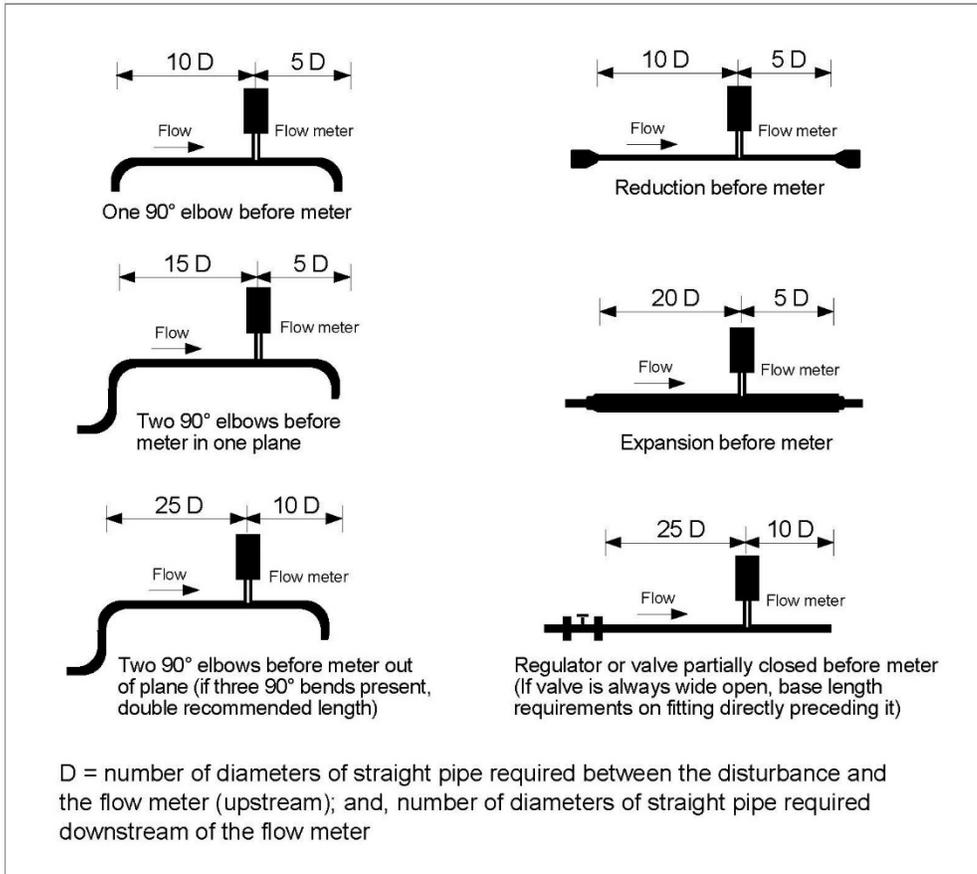

Figure 2. Recommended Pipe Length Requirements for Installation
3. The location meets the required minimum number of pipe diameters upstream and downstream of the sensor head (see Figure 2).
Select an installation site that will minimize possible distortion in the flow profile. Valves, elbows, control valves and other piping components may cause flow disturbances. In order to achieve accurate and repeatable performance install the flow meter using the recommended number of straight run pipe diameters upstream and downstream of the sensor given in Figure 2.
3. Verify the flow meter is installed with the correct number of up-stream and downstream pipe diameters as shown in Figure 2.